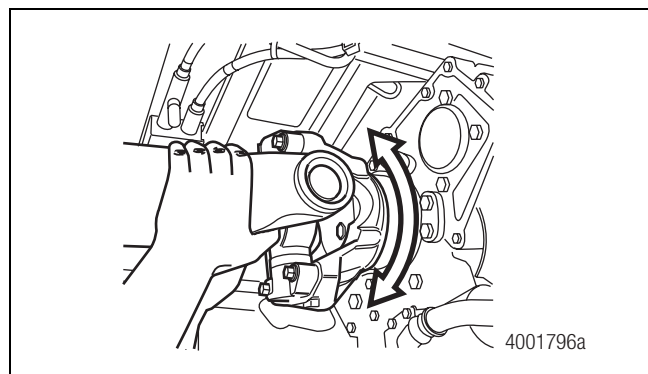

Figure 3.1
- B. Move the end yoke UP-AND-DOWN and SIDE-TO-SIDE. There shouldn't be any movement where the yoke connects to the input and output shafts. Figure 3.1.
- **If the input and output end yokes are not loose, check that the transmission output shaft and axle input shaft splines aren't loose at the end yoke:** Hold the yoke with one hand and rotate it LEFT-TO-RIGHT while you check end play for radial looseness. Figure 3.1.